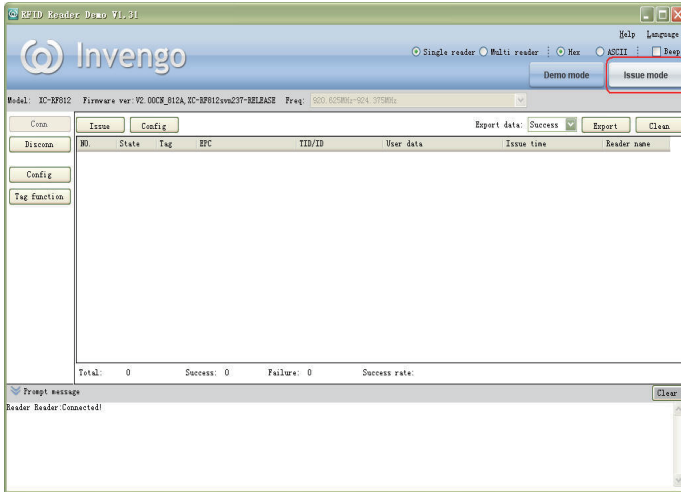

Figure 6-14
- 1, Click “Issue mode” on the main screen, as shown in Figure 6-14.